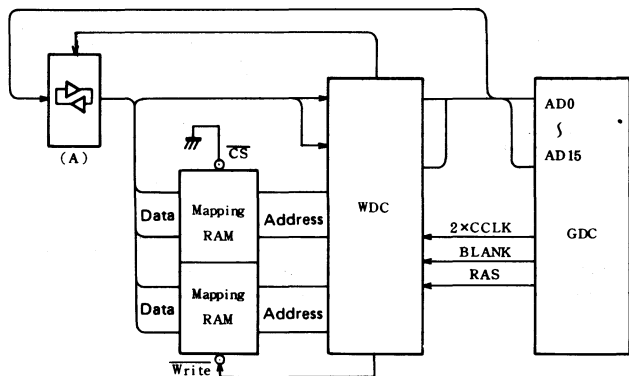

Fig. 73
The Fig. 73 provides the WDC, mapping RAM, and GDC configuration. The  $\overline{CS}$  of the mapping RAM is always low, and is read when windows are displayed. When writing data into the mapping RAM, the WDC controls the buffer (A) and RAM write signal to let the GDC write the necessary data.